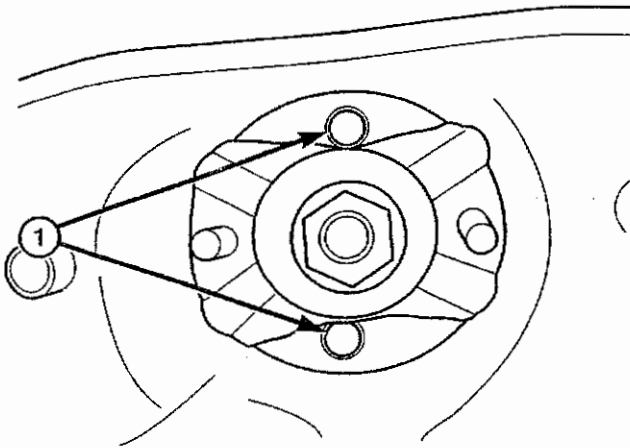
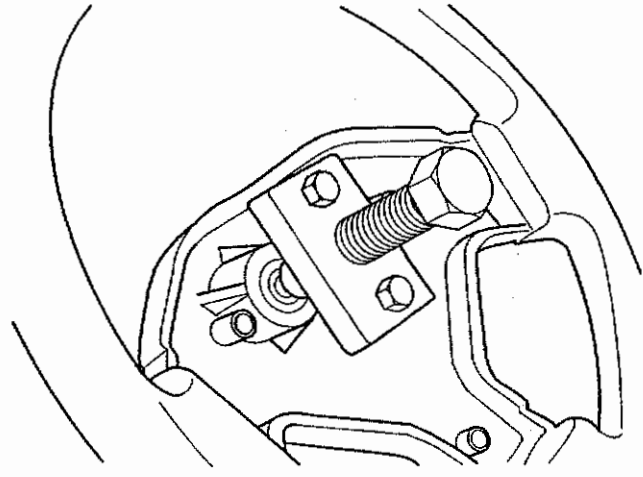

Figure 9 - Steering Wheel Holes For Puller
Figure 10 - Wheel Puller Installed
9. Place the two small bolts through the upper plate of the puller. From the upper side of the steering wheel, run the two bolts through the steering wheel (Figure 9) and thread them into the U-shaped plate. Thread them in far enough to go through the U-shaped plate. (Figure 10)